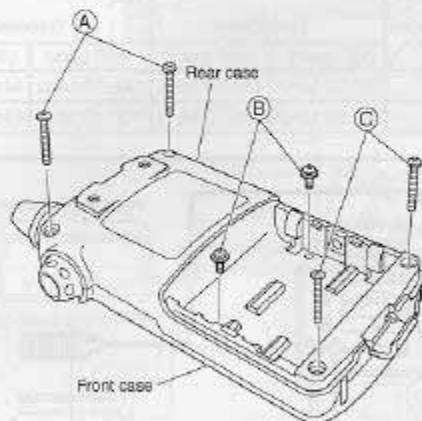

Figure 4-1
- Remove the battery cover, and place the transceiver as shown in figure 4-1.
- Remove the two screws (A), two screws (B) and two screws (C).